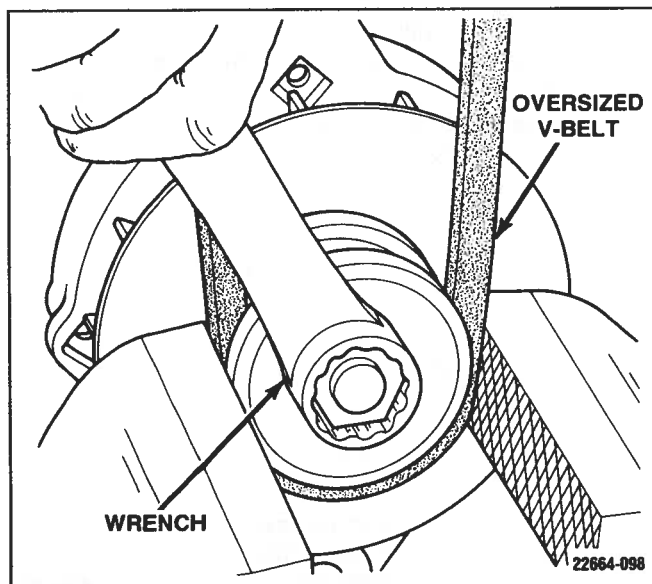

Figure 6-124. Pulley Removal
10. Place an oversized V-belt around pulley and fasten pulley in a vise. (Figure 6-124)